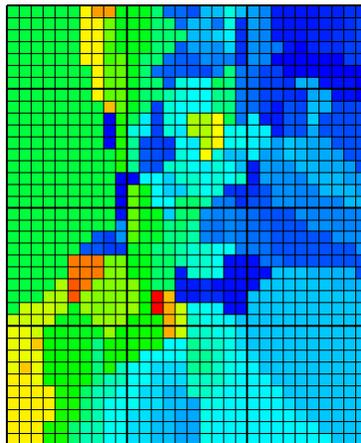
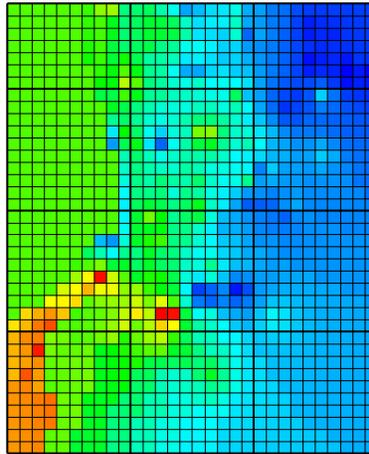

Figure 56. Distribution of Kx in the top layer of the Biscayne Bay aquifer model when the **Nearest** interpolation method is used.
Figure 57. Distribution of K_x in the top layer of the Biscayne Bay aquifer model when the **Inv. Dist. Sq.** interpolation method is used.
This example uses interpolation for several user-defined data sets. Several different interpolation algorithms are available in GoPhast. In this section, the effects of changing the interpolation algorithm will be explored. To do this, the grid will be colored using the Kx data set and then the interpolation algorithm for several user-defined data sets will be changed to see how that affects the results. The user may not get identical results to those illustrated for the **Nearest** interpolation method (fig. 56) and for the **Inv. Dist. Sq.** interpolation method (fig. 57). This is because the user most likely will not have cells in precisely the same locations as those used to generate figures 56 and 57.
32. Select **Data|Color Grid...** Select the **Kx** data set and click the **OK** button. After hiding all objects, the grid should look similar to figure 56.
33. Select **Data|Edit Data Sets...** Select the “Upper_Aquifer_Transmissivity” data set, change its **Interpolation** to **Inv. Dist. Sq.** (Inverse distance squared) and click **OK**. The grid should look similar to figure 57. The hydraulic conductivity at each element in the upper aquifer is